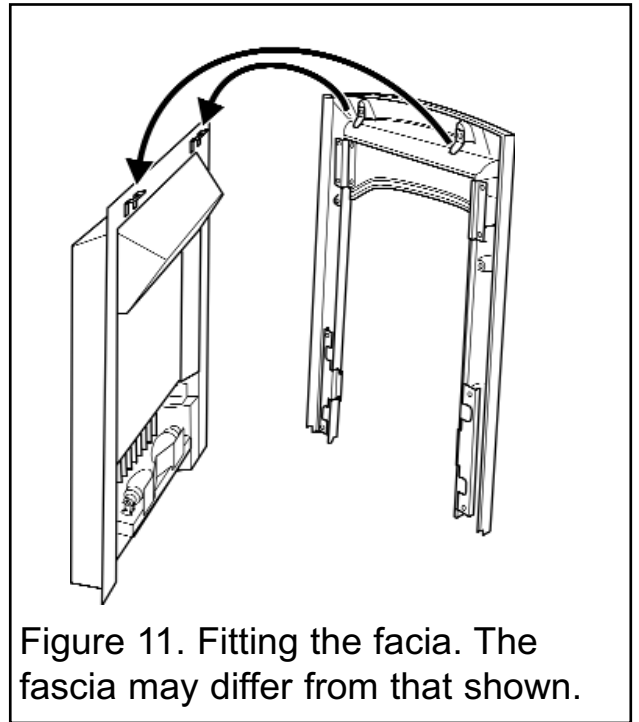

Figure 11. Fitting the fascia. The fascia may differ from that shown.
1. Hook the brackets on the rear of the fascia over the brackets on the heater (See figure 11).
3. Hook the brackets on the rear of the fascia over the brackets on the heater (See figure 11).
2. Holding the lower part of the fascia away from the heater body, hook the upper brackets on the rear of the fascia over the brackets on the heater (See figure 11).